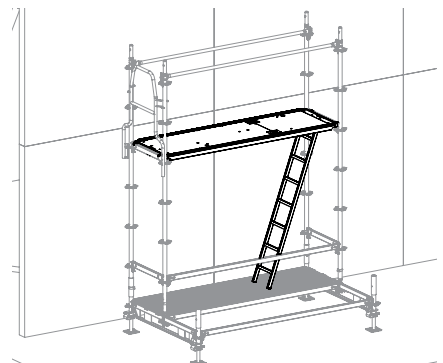

Fig. D3.05
9. Install decking or decking with ladder. (Fig. D3.05)